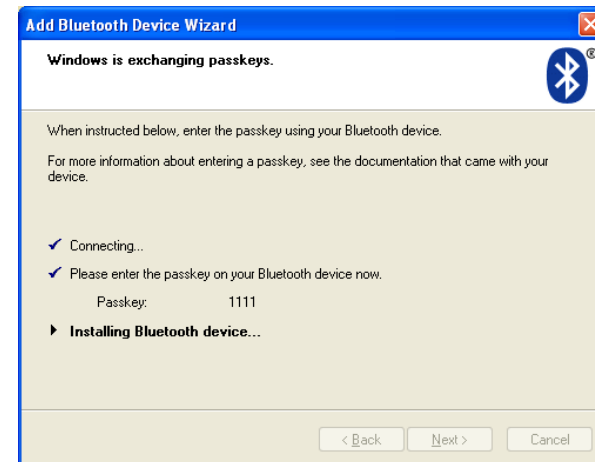

Figure 11 – Installing Bluetooth Device window.
- Click **Next** to advance to the Installing Bluetooth® Device window (Figure 11).